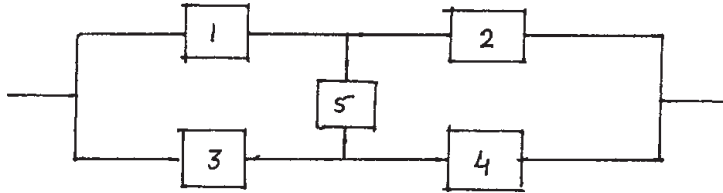

Fig. No. 1
**b)** Fig. No. 1 shows a reliability block dig. for the system.  $R(1) = 0.90$ ,  $R(2) = 0.94$ ,  $R(3) = 0.88$ ,  $R(4) = 0.80$ ,  $R(5) = 0.90$ . Find the system reliability using conditional probability method. [8]